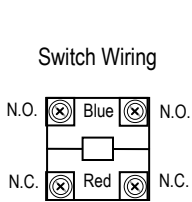

Fig. 1
- For N.C. operation – connect the COM and N.C. wires from the locking device, to the red colored terminal block of the pushbutton switch (see Fig. 1).
- For N.O. operation – connect the COM and N.O. wires from the locking device, to the blue colored terminal block of the pushbutton switch (see Fig. 1).